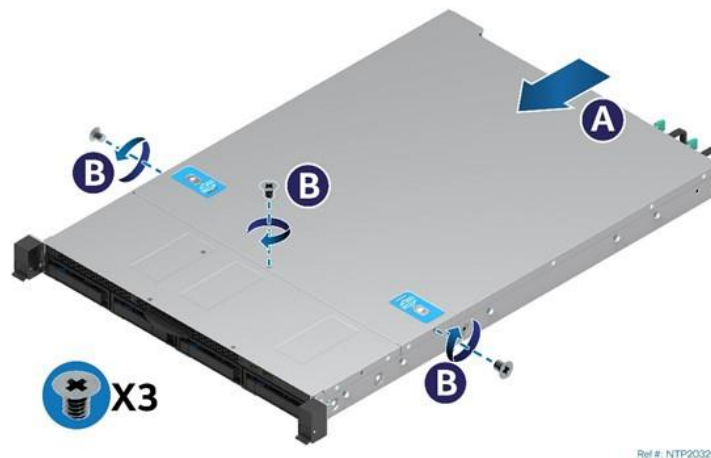

Figure 57. System Cover Installation
1. Place and secure the top cover to the chassis (see Figure 57).